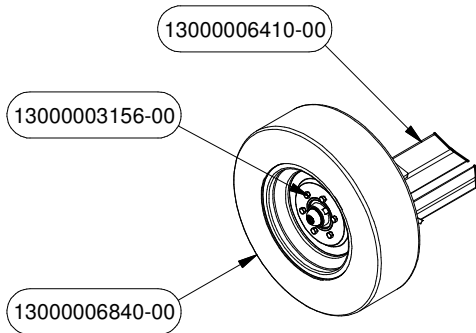

FIGURE 2
6. Attach the Tires PN# 6840 to the Axle using the Wheel Bolts PN# 3156 as shown in Figure 2.